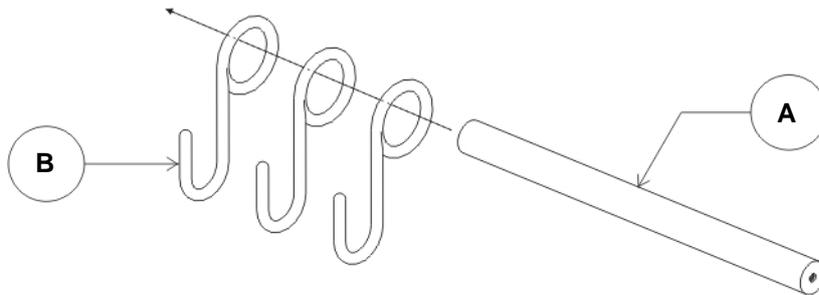

Fig. 2
2. On a soft, clean surface, thread the metal rod (A) into the loops of the s-hooks (B). See fig. 2.